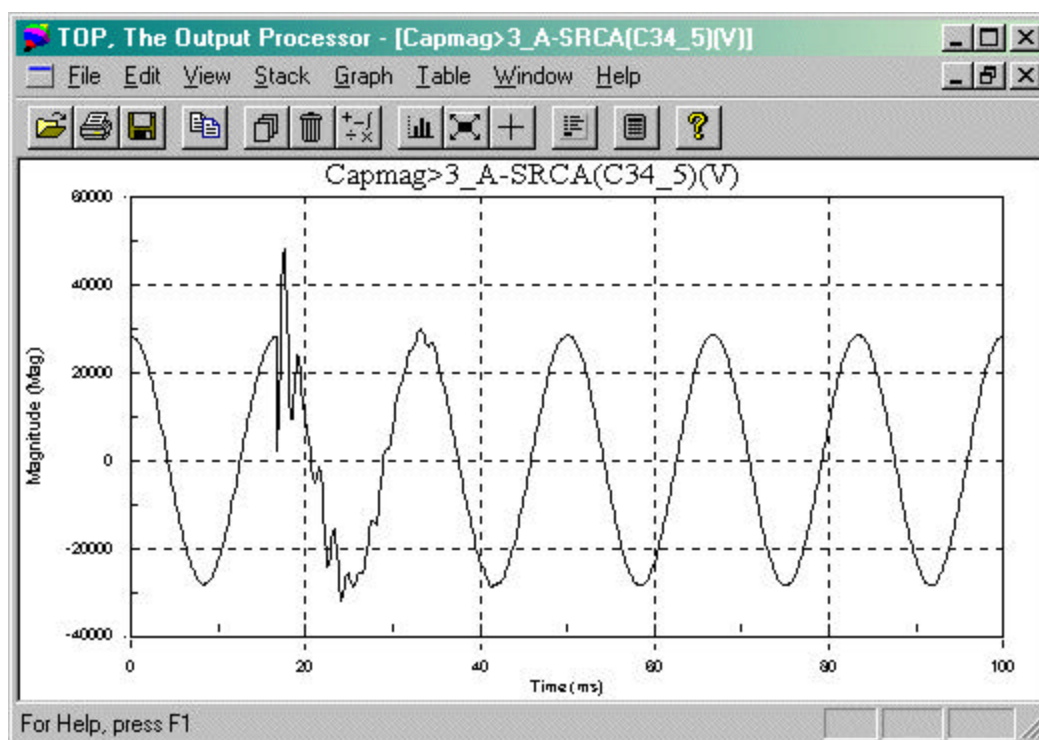

Figure 1-5: TOP's Plot Display Window
- **Superimpose** (default) to place all selected objects in a single window (illustrated in Figure 1-5).